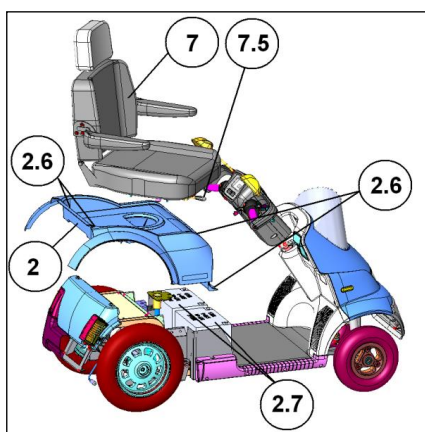
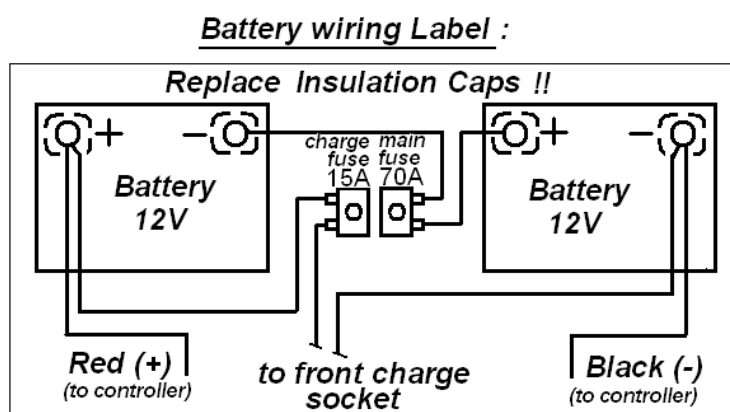

Figure 11
Figure 12
2. The numbers in parentheses refer to the parts illustrated in figure 11.
Replace batteries	<p>Note! Batteries must be replaced by trained professionals only.</p> <p>Warning! Batteries contain high energy and can spark, resulting in a possible fire hazard.</p> <p>Warning! Working with batteries can cause damage and Injury if not done properly.</p> <p>In this procedure, refer to Figure 12.</p> <ol style="list-style-type: none"> 1. Remove the terminal insulating cap from one battery terminal. 2. Using a 10/13 mm key, unscrew the wiring from the terminal. Take care not to let the key touch any other terminal or metal part, as this could cause damage or injury. 3. Repeat steps 1 and 2 for all the other terminals. 4. Remove the old batteries and install the new ones. 5. Connect the wires of the new batteries as shown in Figure 11 (also shown on the label located near the batteries). 6. Screw down the terminals securely, and replace the insulating caps.